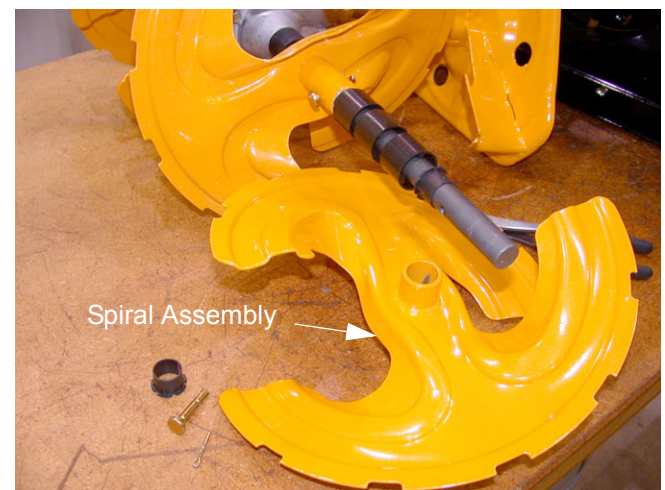

Figure 50
- Spiral assemblies are marked left and right for proper installation. See Figure 50.